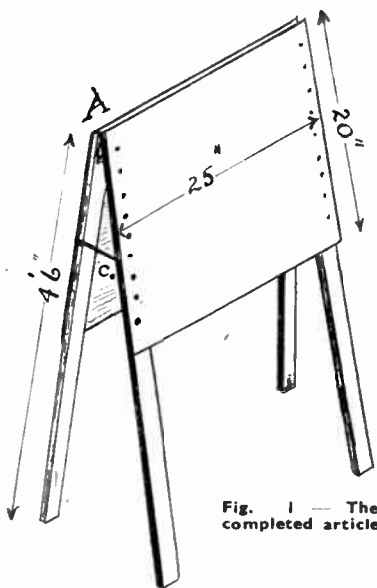

Fig. 1—The completed article
You should begin by making the legs from the four battens. Mark these out, saw to required length, plane up the faces, and test them with the try-square. Then fix the two 1in. hinges in position to make two pairs of joined battens, as seen at (A) in the diagram. The perspective view in Fig. 1 shows how easily this can be done, whilst a detail of the hinge is given at Fig. 2.